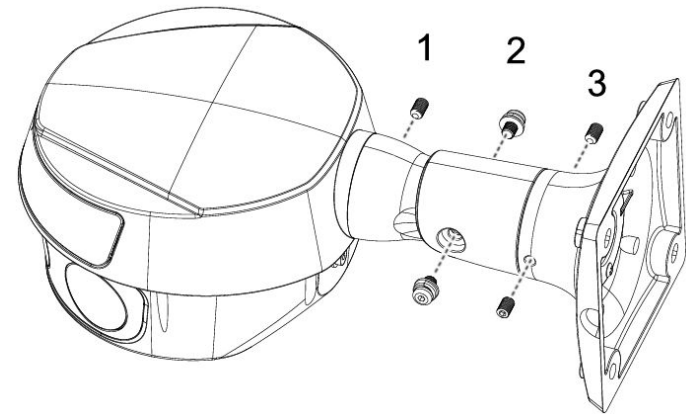

Figure 1-4
Step 4 To adjust the viewing angle of the camera, locate the adjustment screws on the side of the camera's base and loosen. See Figure 1-4.